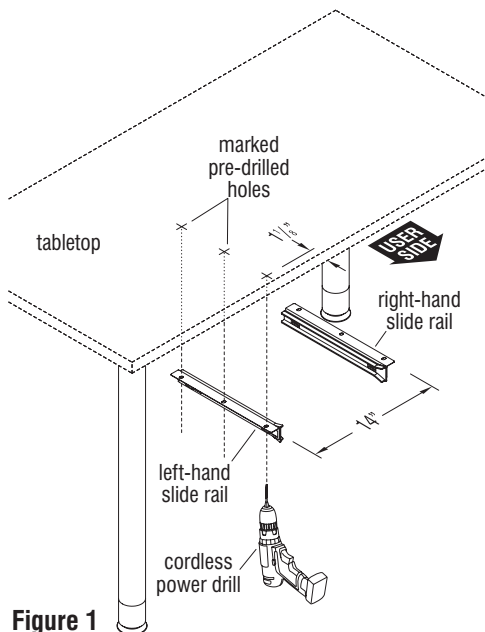

Figure 1
edge and the front mounting holes for the slide rails must be located $1\frac{1}{8}$ " back from the tabletop front edge. Mounting holes of each slide rail must also be positioned 14" apart (Figure 1).
2. Locate and identify the left- and right-hand slide rails, then orient them as shown, correctly positioned for installation. The openings on the slide rails must face each other and the V-shaped openings must face the front, "user side" of the tabletop (Figure 1).
5. Carefully drill a $\frac{1}{8}$ " diameter pilot hole under the tabletop at the center of the marked location using a power drill. Take care to not drill too deep, piercing through the tabletop (Figure 1).
8. Carefully drill a $\frac{1}{8}$ " diameter pilot hole under the tabletop at the center of each remaining marked mounting slot location using a power drill. Take care to not drill too deep, piercing through the tabletop (Figure 1).